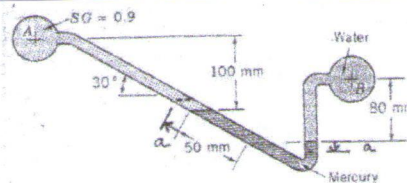

FIGURE P2.62
2.62 Determine the new differential reading along the inclined leg of the mercury manometer of Fig. P2.62, if the pressure in pipe A is decreased 10 kPa and the pressure in pipe B remains unchanged. The fluid in A has a specific gravity of 0.9 and the fluid in B is water.